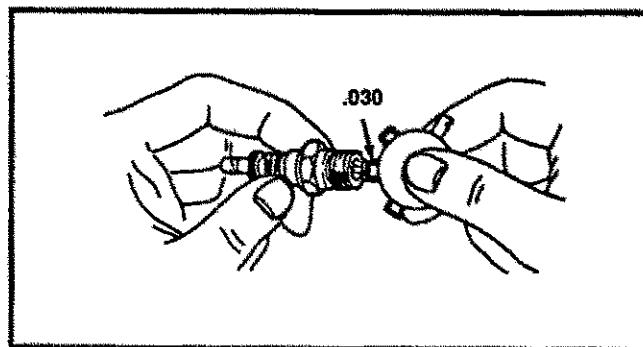

FIG. 9-SERV & ADJ
- Set the gap between the electrodes of the new spark plug at .030 inch. Next, install the spark plug in the cylinder head. Tighten the plug to 18 to 23 foot pounds. If you do not use a torque wrench, tighten the plug firmly (See FIG. 9-SERV & ADJ).